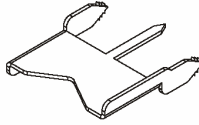

Figure 15: The Tip Tool
3. Insert the center of the tip tool (provided, see Figure 15) into the marked location, and cut out the column opening by twisting the tip tool back and forth, thus creating a hole.